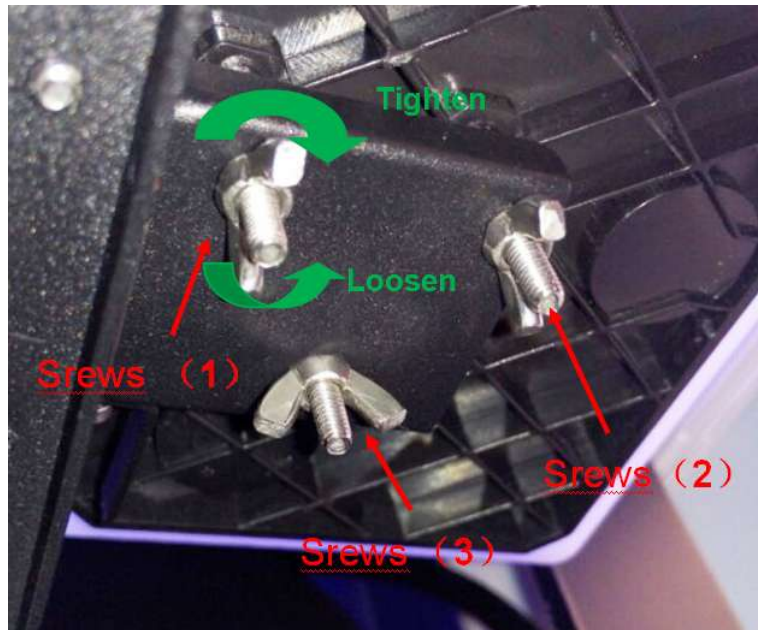

Figure 6.5.3
② The platform will move down if tighten the screws; The platform will move up when loosen the screws. Shown as Figure 6.5.3.